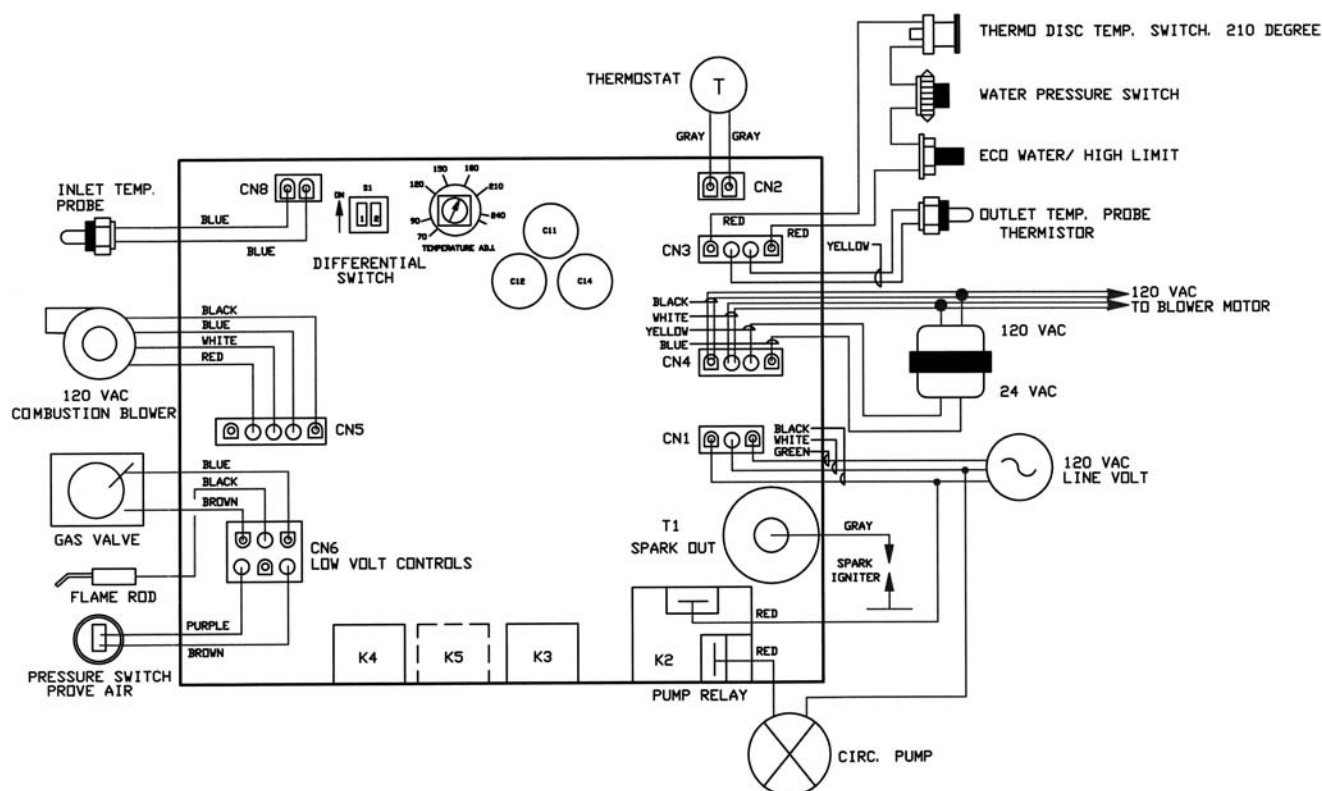

Figure 6.5: Boiler Control Board Factory Wiring
9. The boiler control board and factory wiring are shown in Figure 6.5.
11. Use the sequence of operation description and Figure 6.5 to follow light-off and shutdown sequences and to assist in diagnosing problems. If the boiler does not function properly, consult Section 8, Troubleshooting.